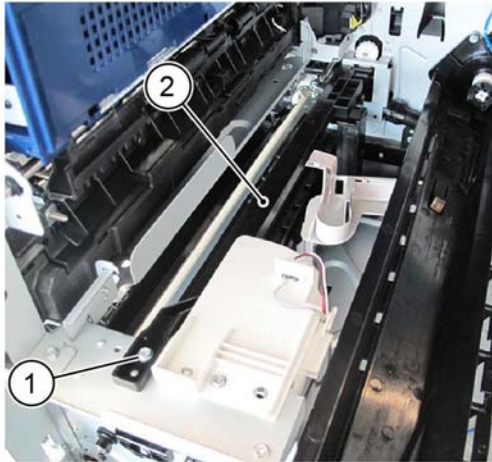

Figure 2 CRU upper guide assembly removal
4. Remove the CRU upper guide assembly, Figure 2.
- a. Remove the screw (1).
- b. Remove the CRU upper guide assembly. (2).